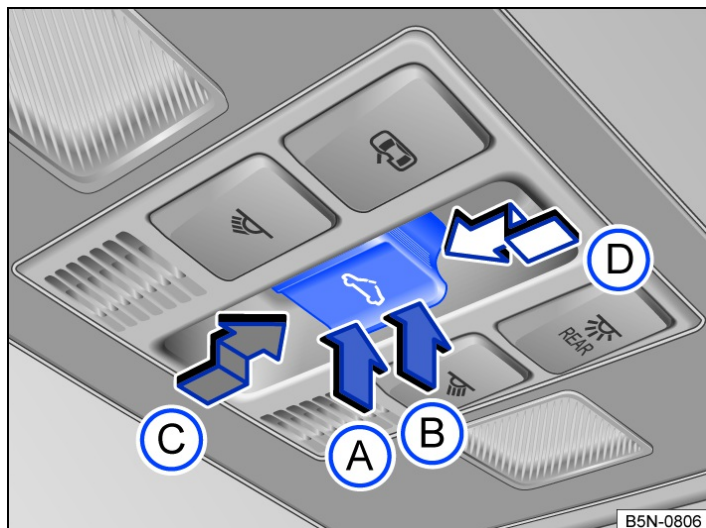

Fig. 1 In the roof: button for the glass roof.
- Manual operation: push button → Fig. 1 **B** to the first position.